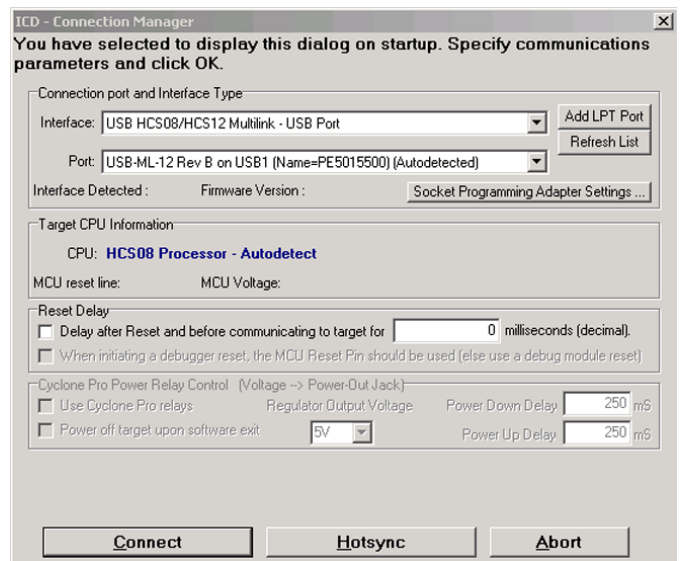

FIGURE 12. CODE WARRIOR SIMULATOR CONNECTION MANAGER
4. The *Connection Manager* dialog box appears (See Figure 12.) Press Connect.